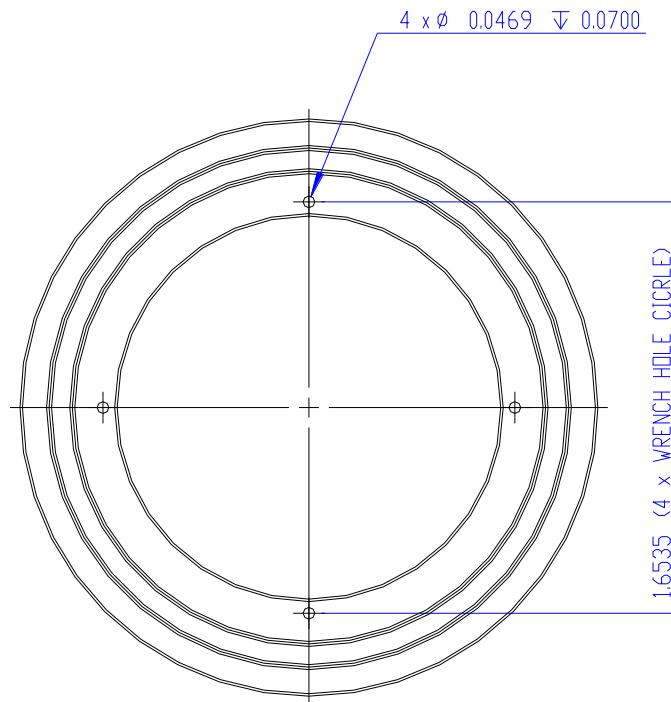
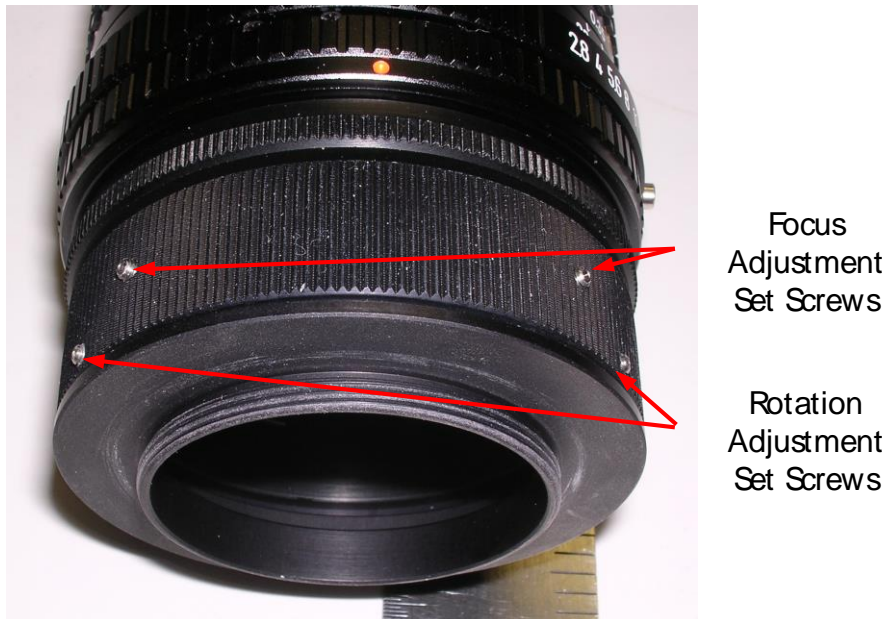

Figure 6. Drawing of adapter panel ring showing spanner holes.
Figure 7. Location of lens adapter focus and rotation adjustment set screws.
7. Remove the camera's protective covering from the front plate and gently thread the adapter fully into the plate until the piece begins to seat. Using finger pressure on the outer rim of the M42 panel piece only (threaded piece shown in Figure 7), seat it firmly into the camera. If a two-point spanner wrench is available, remove the lens and look through the adapter from the lens side to see the four holes in the M42 panel piece that threads into the camera (see Figure 6). Adjust the spanner wrench to the spacing shown and firmly tighten the adapter to the camera using the wrench.
8. Locate the set screws on the lens adapter barrel used for locking the rotation and focus adjustments. There are three rotation locking sets screws on the knurled collar ring closest to the camera plate set 120 degrees apart and two focus adjustment locking set screws further away from the camera set 90 degrees apart. The set screws locations are shown in Figure 7.